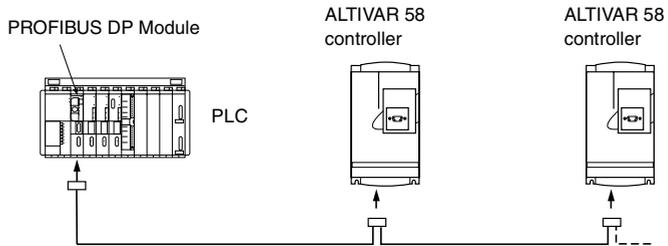

Figure 5: RS-485 Connection Example
- An example of connecting to a standard RS-485 network is shown in Figure 5.